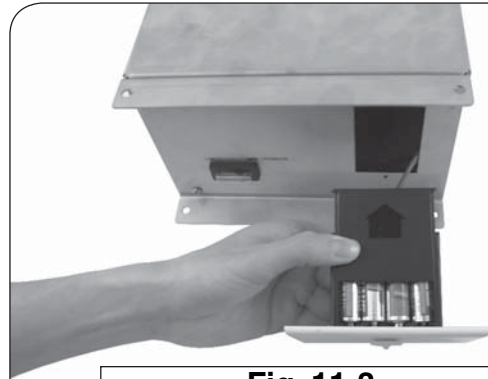

Fig. 11-3
To access the "AA" battery pack, unscrew and remove the two (2) retaining screws on the control system. Pull out the control system and then slide open the battery pack lid as shown in Fig. 11-3. Replace the old batteries with four (4) new "AA" batteries. Resecure the battery pack lid and return the control system into the control panel. Screw in the two (2) retaining screws.